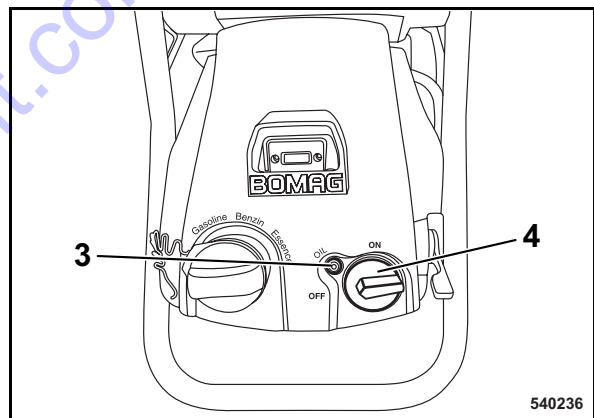

Fig. 8
If the oil level warning lamp (3) (Fig. 8) lights up when starting the engine, the oil level must be corrected, as otherwise the engine cannot be started.